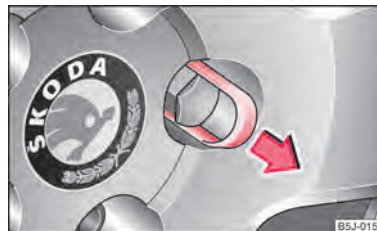

Fig. 136 : Pull off cap from the wheel bolt
- Pull the cap off with the **plastic clip** ⇒ fig. 136.